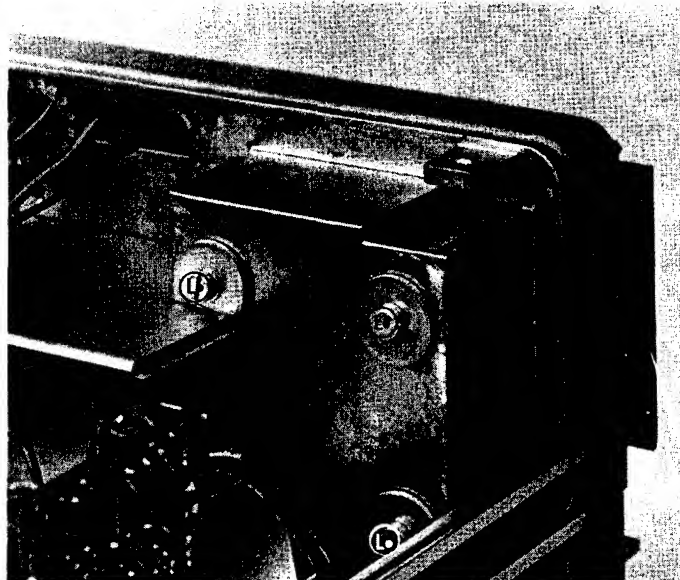

Fig. 3.24. Dismantling
- Remove the three screws L (Fig. 3.24.).